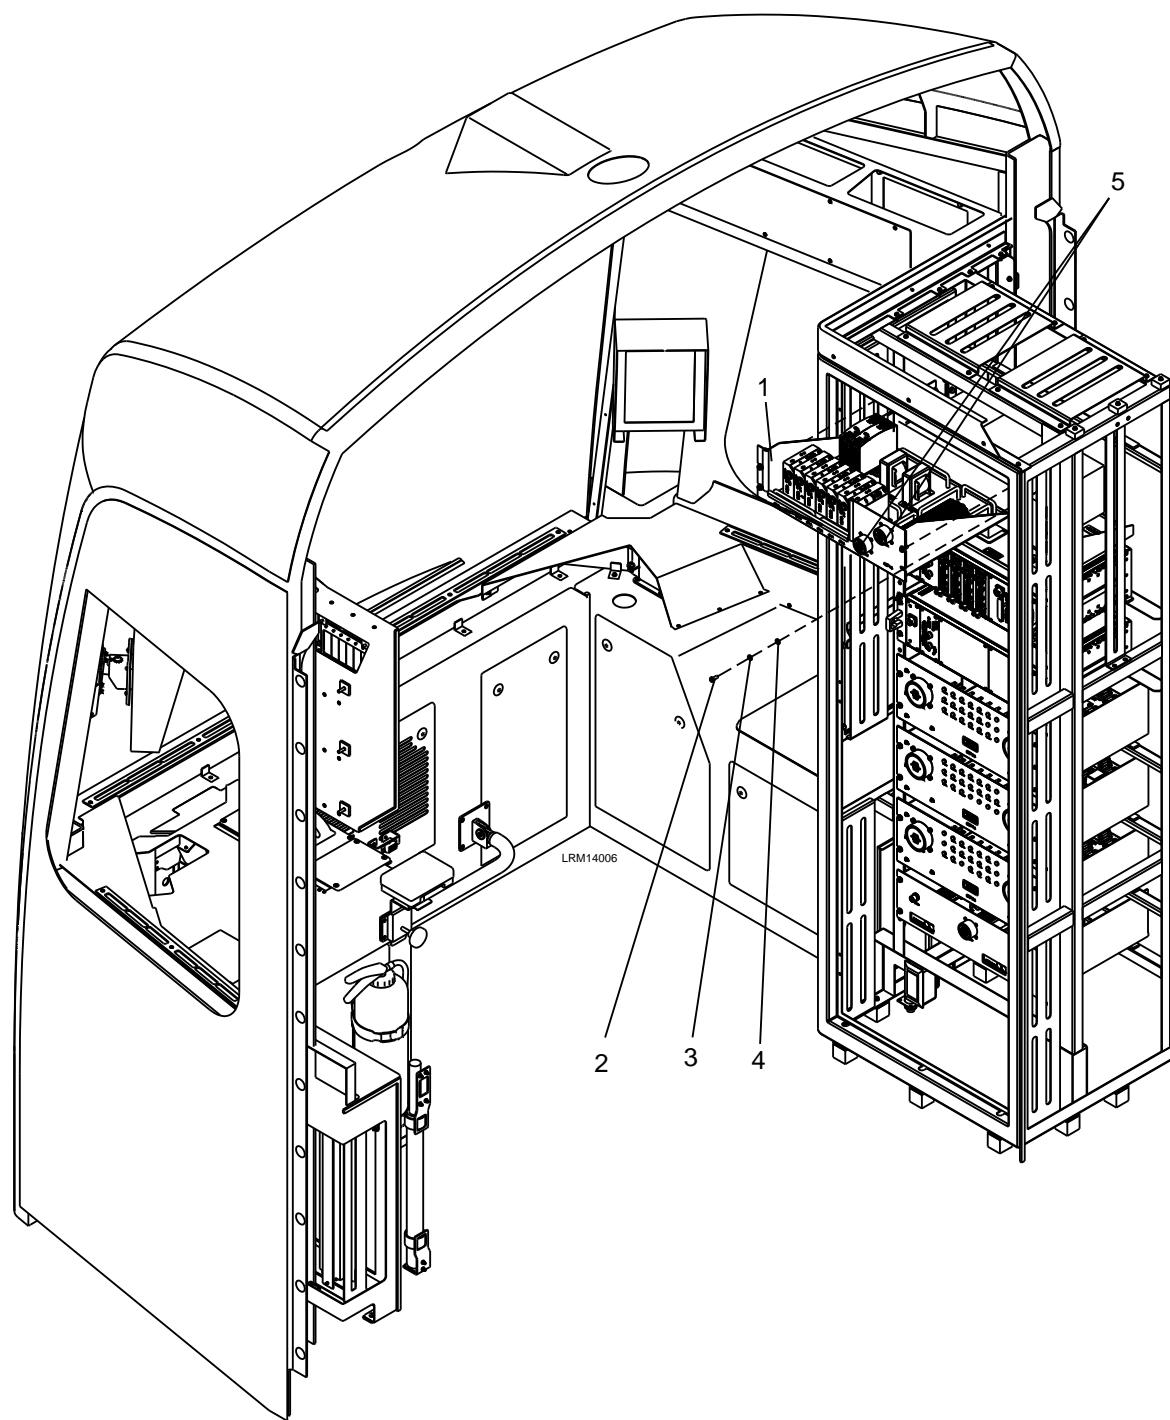

Figure 8-2: Audio Control Panel (ACP1A)
2. Disconnect the electrical connectors (5) to the ACP1A Panel (1). See Figure 8-2.
3. Remove the four M6 x 16 screws (2), M6 lock washers (3), and M6 plain washers (4).
4. Carefully remove the ACP1A Panel (1).